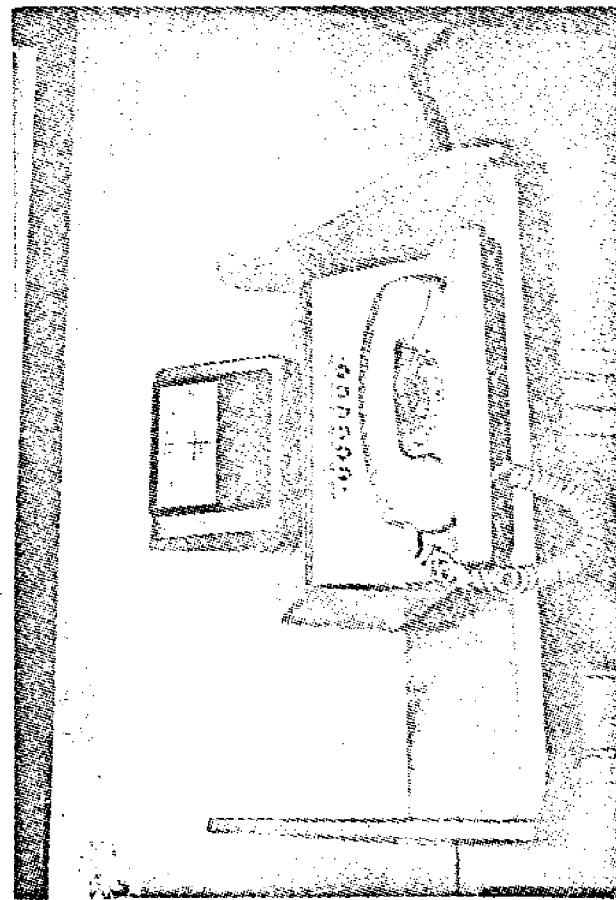

Fig. 3. Remote meter with telephone modem
- 3) Remote readout meter, Fig. 3